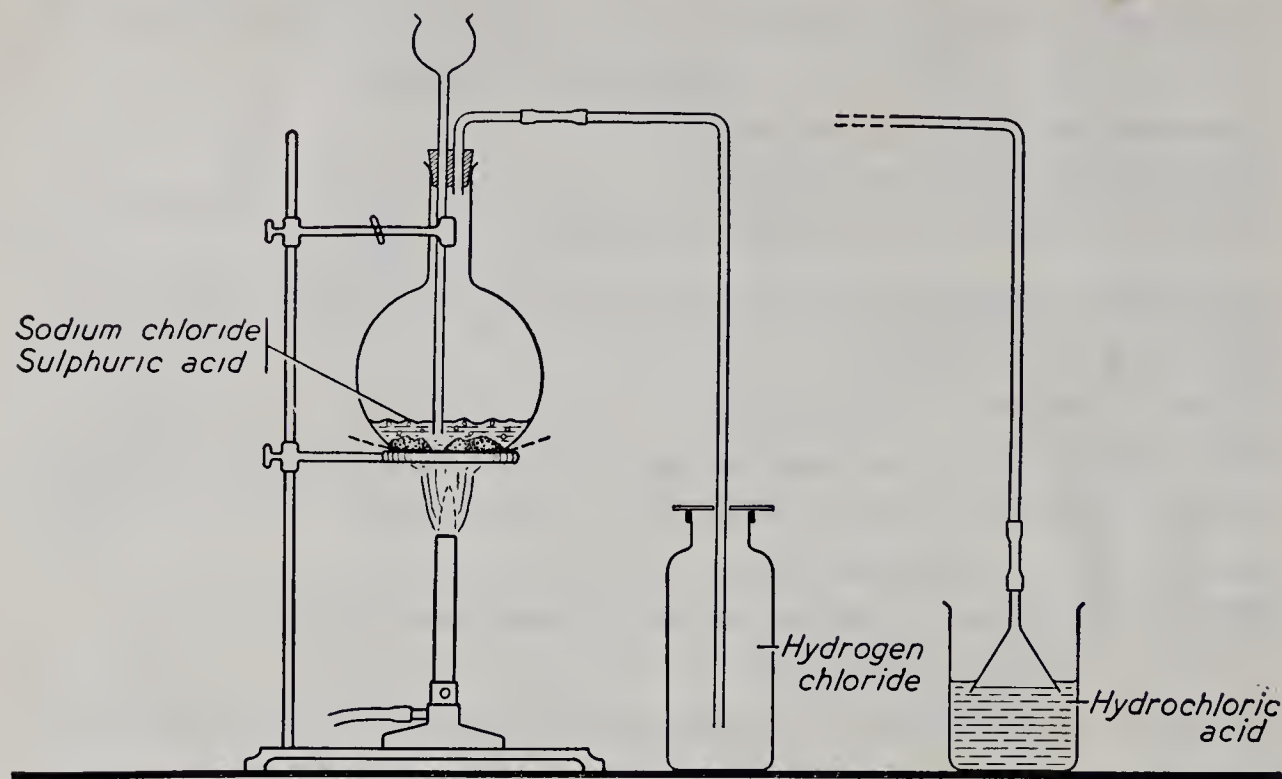

Fig. 62. The laboratory preparation and collection of hydrogen chloride.
1. Set up the apparatus as shown in Fig. 62. Put approximately four teaspoonfuls of common salt into the flask, and add just sufficient water to moisten the salt. Through the thistle-tube, add enough concentrated sulphuric acid to cover the end of the thistle-tube.